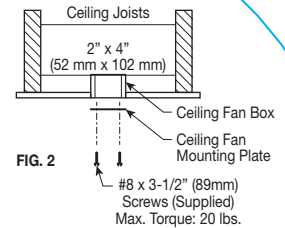

FIG. 2
- 4) Mount the ceiling fan mounting plate to the bottom of the ceiling fan box, using the two #8 x 3-1/2" screws (supplied), See Fig 2. **Screws supplied must be used.**